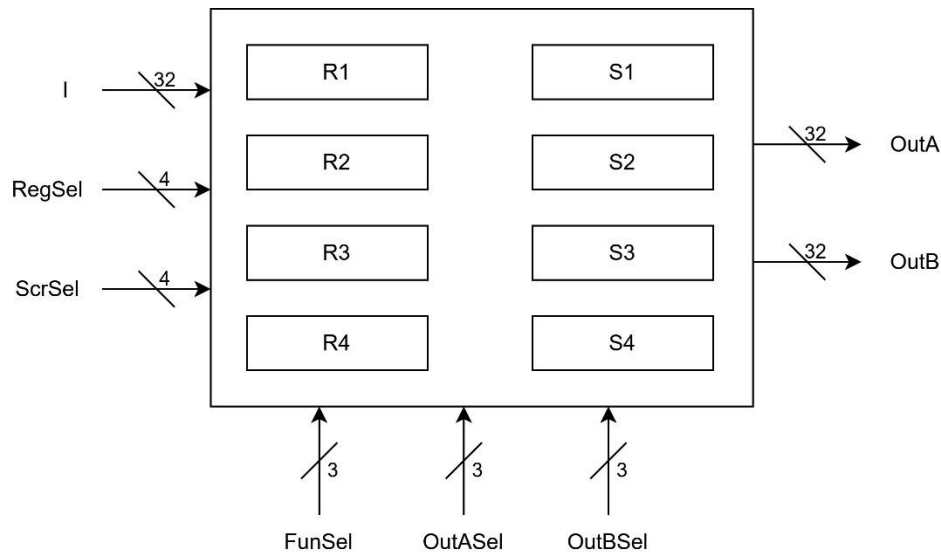

Figure 5: 32-bit general purpose and scratch registers, inputs, and outputs.
(Part-2c) Design the **Register File (RF)** shown in Figure 5 which consists of four 32-bit general purpose registers: **R1**, **R2**, **R3**, **R4**, and four 32-bit scratch registers: **S1**, **S2**, **S3**, and **S4**. The details of inputs and outputs are as follows.